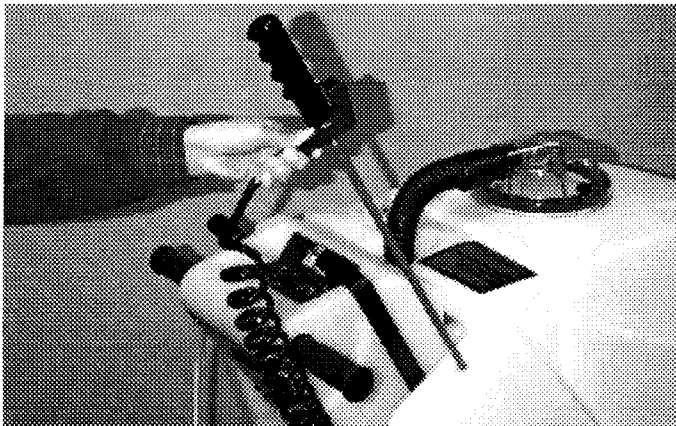

Fig. 1
3. Install spray wand into opening on the right side of the tank, next to the control housing. (Figure 1)